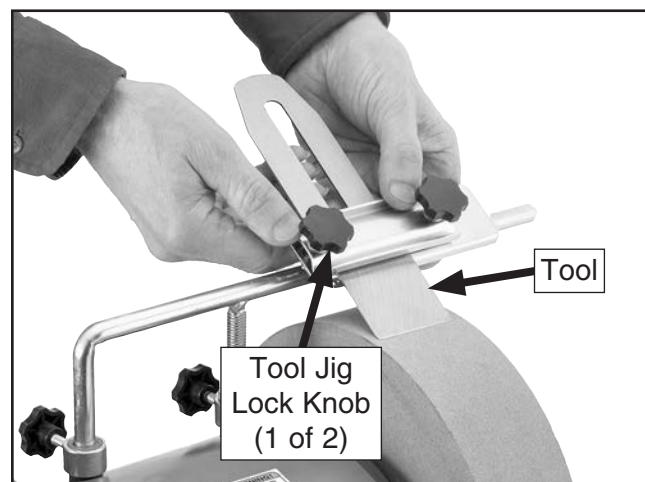

Figure 17. Tool secured in tool jig.
3. Insert tool between faces of jig clamp, as shown in **Figure 17**, and tighten (2) tool jig lock knobs.